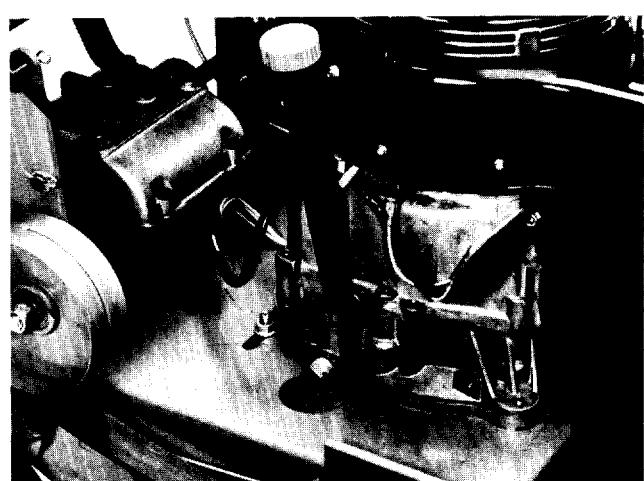

Figure 12
- Turn engine off and place drain pan under frame, below drain plug (Fig. 12). Remove drain plug and allow all oil to flow into drain pan. Install drain plug after oil stops flowing.